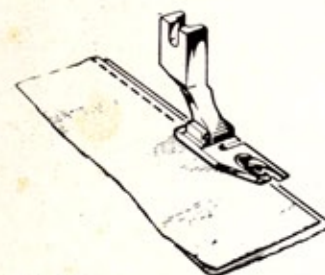

Fig. 45
- Place a piece of fabric on top of the other so that their right sides face each other. Right edge of bottom piece should protrude about 1/2" beyond right edge of top piece (Fig. 45).